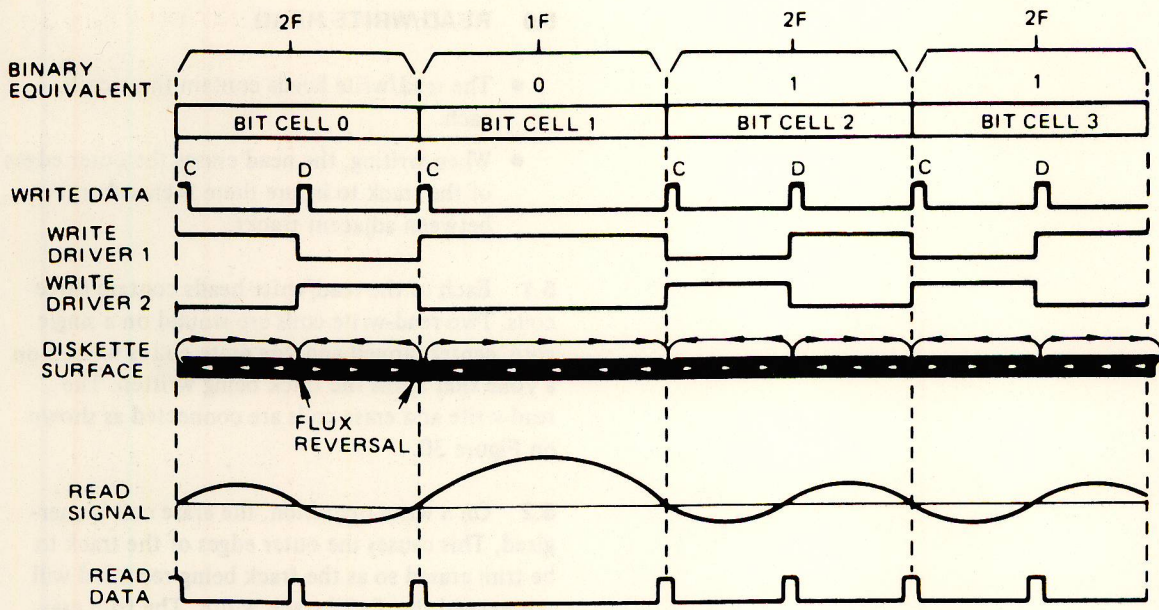

FIGURE 29 1F AND 2F RECORDING FLUX AND PULSE RELATIONSHIP
4.5 Figure 29 shows the 1F and 2F recording flux transitions with pulse relationship.